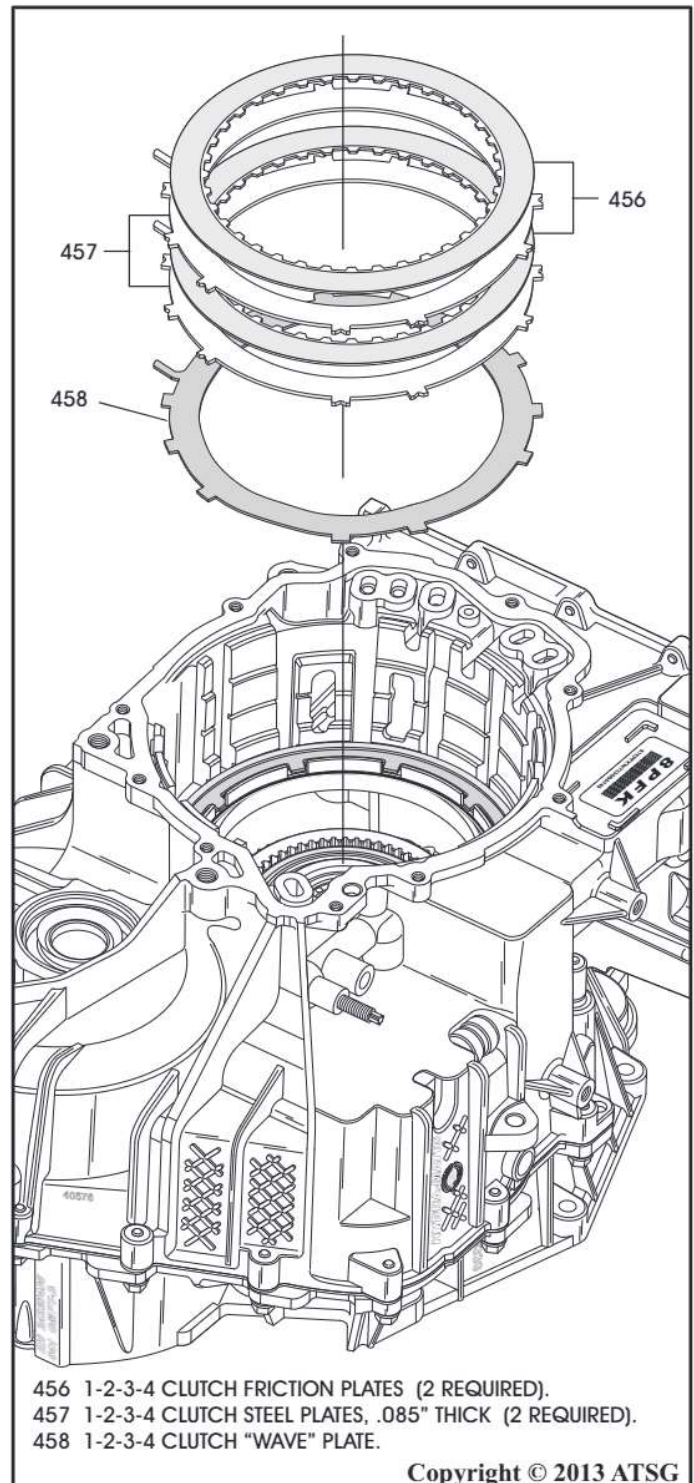

Figure 66
46. Remove the 1-2-3-4 clutch pack, 2 frictions and 2 steel plates, as shown in Figure 66.
47. Remove the 1-2-3-4 clutch "wave" cushion plate as shown in Figure 66
Note: Note the location of the long tabs on the wave, steel and backing plates towards the bottom of the case (See Figure 66).